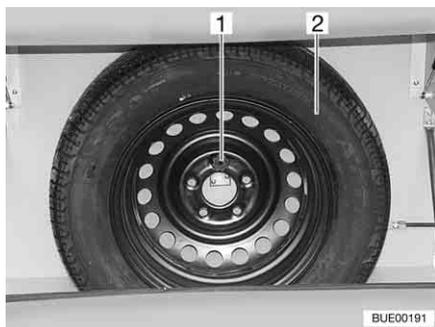

Fig. 221 Spare wheel support
The spare wheel support is fitted in the gas bottle compartment. The spare wheel (Fig. 221,2) is available for a surcharge.
- Undo bolt (Fig. 221,1).
- Remove the spare wheel (Fig. 221,2).